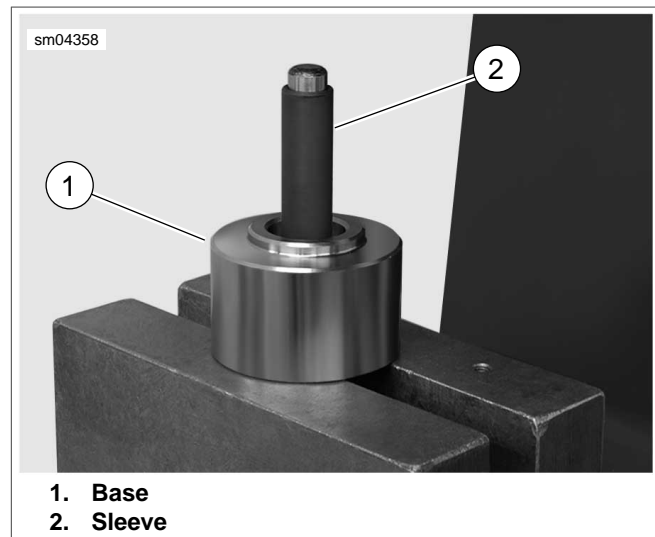
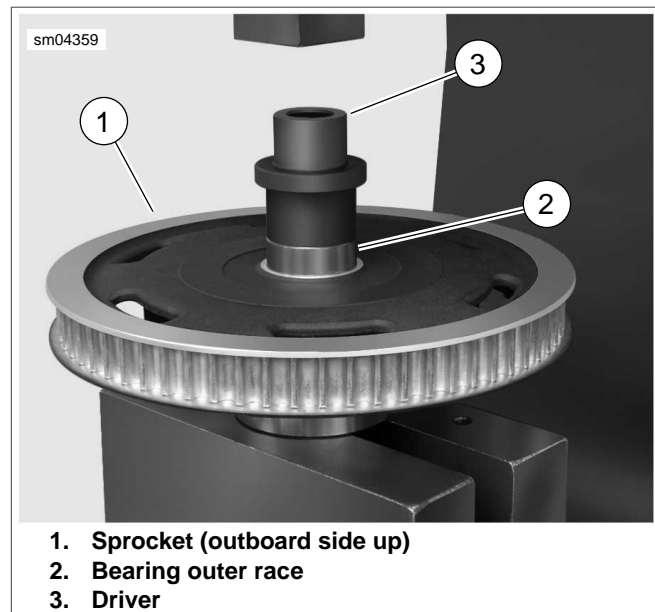

Figure D-5. Position Tool for Bearing Installation
Figure D-6. Install Compensator Sprocket Bearing
2. See Figure D-5. Position base (1) on deck of arbor press with the small OD topside.
3. Slide sleeve (2) over base pin.
5. See Figure D-6. With the outboard side facing up, slide sprocket (1) over sleeve until it rests on base.
6. Slide bearing (2) over sleeve.
7. Slide large OD of driver (3) over sleeve until contact is made with outer race of bearing.